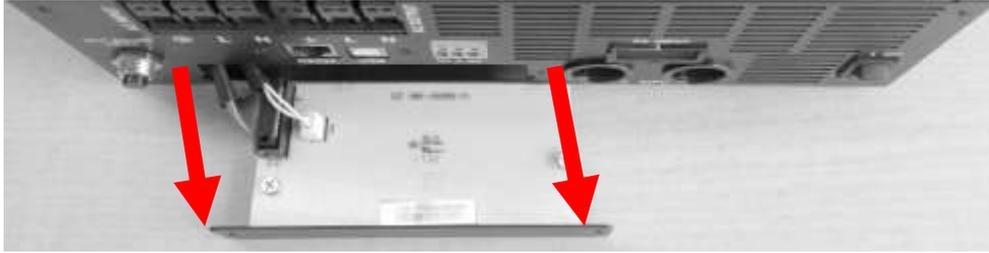

Figure 10: Pull out dummy board
- Carefully pull out the beige dummy board as shown in *Fig. 10*. Take care to pull the attached cables out only as far as is absolutely necessary. Do not use excessive force.